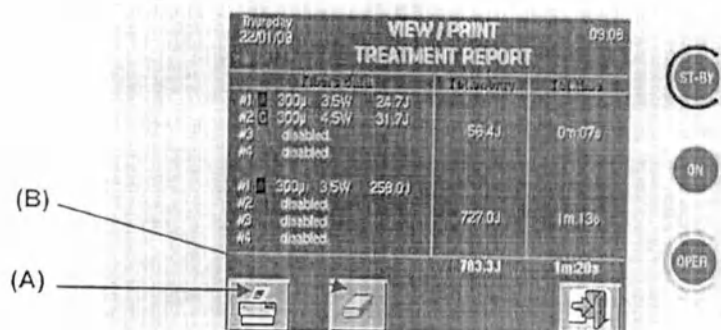

Fig. 25 - Print menu
Press the area indicated with (A) in Fig. 25 to print report: the user has to choose between "detailed" or "standard" report.
The operator is suggested to reset the report each time a laser treatment for a new patient has to be started otherwise treatment data for different patients are mixed: use the apposite option - (B) in Fig. 25 -.